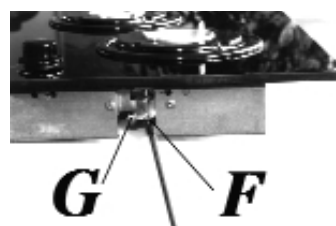

FIG. 9
- Remove the strip of protective paper from the seal. Fit the hot plate into the hole in the cabinet and lock it in place with the relative fixing screws "F" of the fixing hooks "G" (see fig. 9).